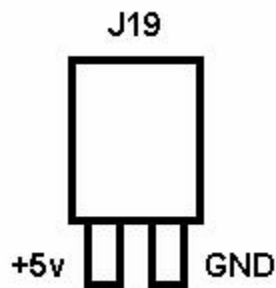

Figure 2: Main power connector J19 pinout.
4. Check for cross-rail shorts by probing inter-plane impedances using DMM; GND at J19 is convenient for probe; P4, P5, P6—pin 4 is output of PT regulators. See Figures 2, 3, and 4.